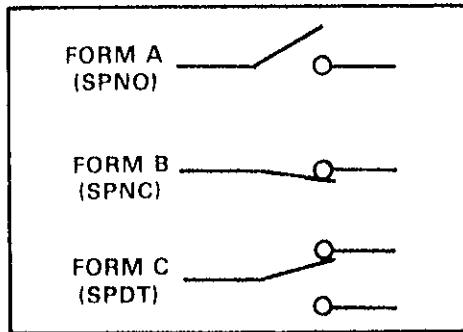

Figure 4. Switch Terminology
1. Form A—is simply a single pole normally open (SPNO) switch (refer to Figure 4). A 2-pole switch normally open is classified as a 2 Form A.
2. Form B is similar to Form A except that its contacts are normally closed (refer to Figure 4). A 2-pole switch normally closed is classified as a 2 Form B.
3. Form C is shown in Figure 4 as a single pole double throw switch. It could also be a multipole switch as a 2-pole which would be classified as a 2 Form C.